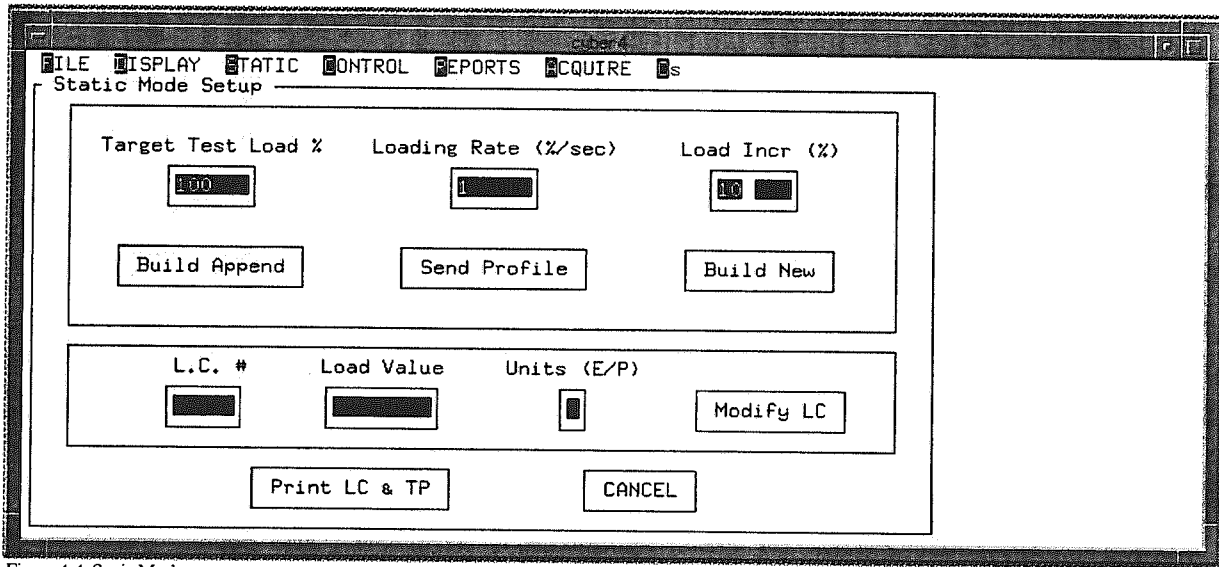

Figure 4-4 Static Mode screen
- Step 2:** Select the Static menu, Static Mode option. The Static Mode screen, **Figure 4-4**, is displayed. Building a new test may be done either before or after the test is brought on-line (i.e. downloaded). However, a test profile must exist in order to pass Verify and initiate a download. Typically, the [Build New] option is used to automatically create the initial profile before downloading.